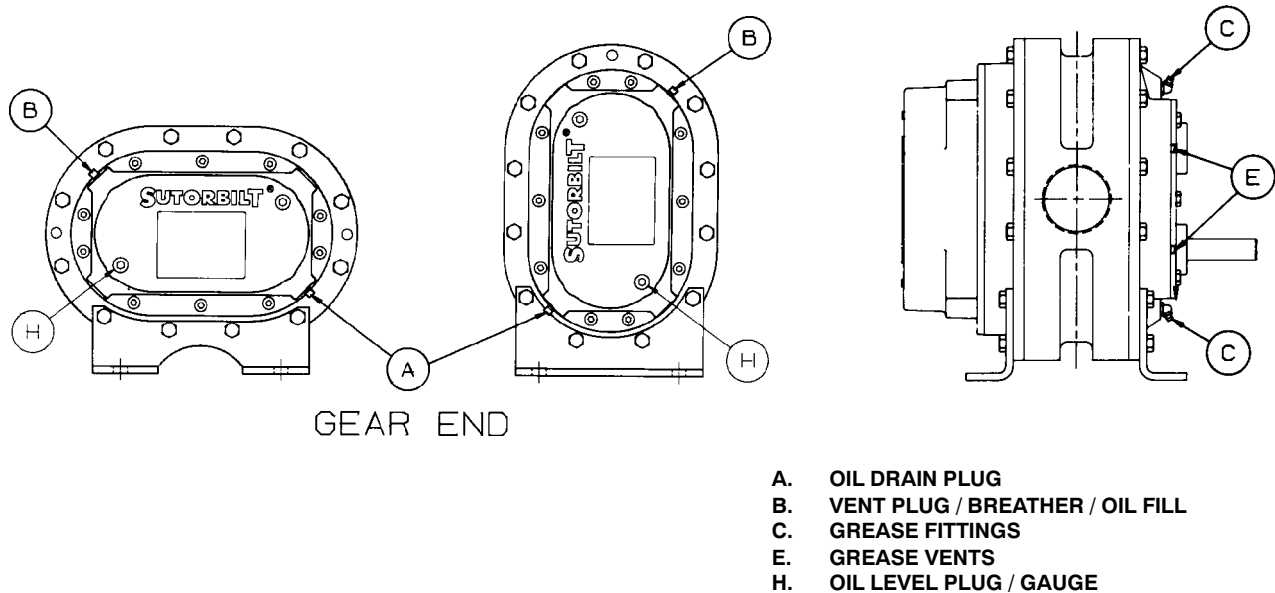

FIGURE 3 - LUBRICATION
**When changing mounting configuration, it may be necessary to reposition vent plug (B), and drain plug (A). Refer to FIGURE 3, page 7, for correct location.**
located at C in FIGURE 3 (2 places). When re-greasing, the old grease will be forced out of the vents (E in FIGURE 3). To prevent damage to seals, these vents must be open at all times.
Refer to FIGURE 3, page 7. Remove the oil level plug (H) and the square head vented oil fill plug (B) from the gear cover. Add oil to the gear case until oil drips out of the oil level hole (H). Secure plugs in their correct location.
Refer to FIGURE 3, page 7. Remove the breather (B) from the gear cover. Add oil to the gear case until oil reaches the center of the oil level gauge (H). Secure breather (B) in the gear cover.